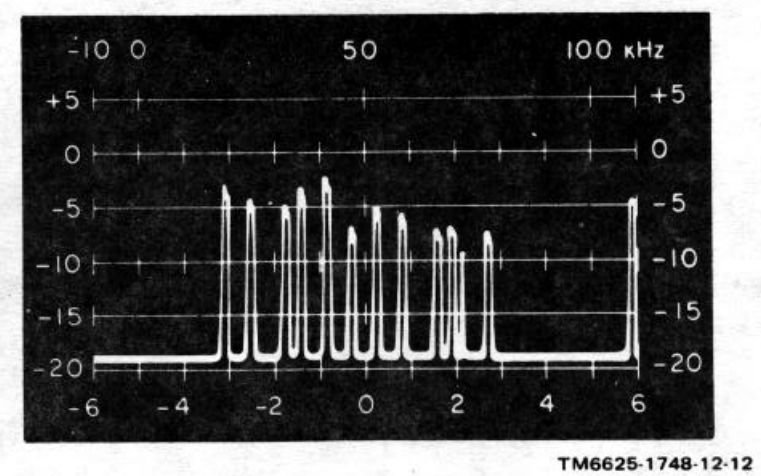

Figure 3-4. Typical 3.6-kHz display, IP-1018/U spectrum analyzer.
(4) *3.6-kHz bandwidth display.* In figure 3-4 the spectrum analyzer has been switched to the 0.3 kHz/DIV SWEEP mode. and only a bandwidth of 3.6 kHz is under observation. The 3d, 9th, and 11th subcarriers appear to be momentarily shifted to the right, indicating a "space" condition resulting from FSK modulation. The pulse appearing immediately to the right of the 10th subcarrier probably represents a momentary shift of the 10th subcarrier to a spacing condition. The pulse at the far right is a subcarrier in the next higher channel.